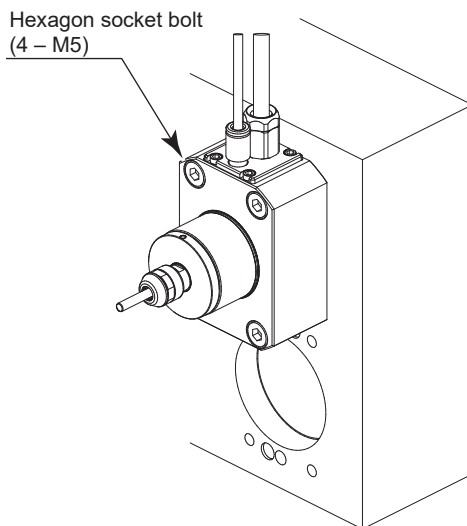

Fig. 18
- ① Insert the ϕ 42 mm spindle body housing section into the machine tool holder with the ϕ 5 positioning pin facing downward. (Installation on the upper station is recommended.)
- ② Secure the motor spindle through the four mounting holes using the supplied hexagon socket bolts (M5 $\times$ 30) (Fig. 18)